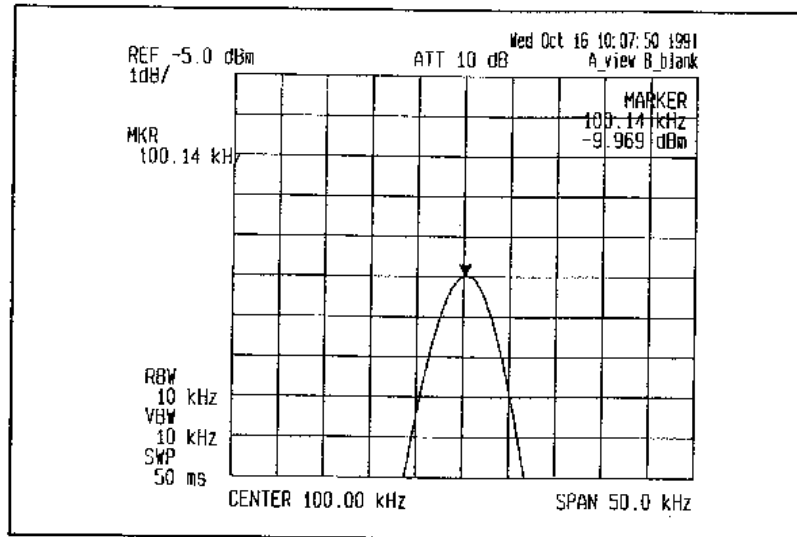

Figure 5-2 SG Output Waveforms
Press the , keys (see Figure 5-2).
- (6) Adjust the correction trimmer of the probe to match the waveforms shown in Figure 5-2. The calibration has completed (see Figure 5-4).